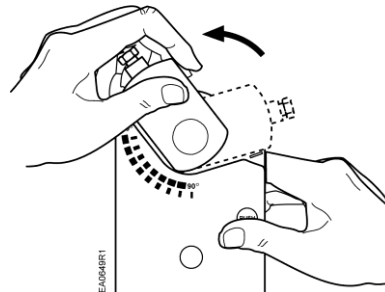

Figure 18.
- b. Hold down the **PUSH** button and rotate the shaft adapter to the left until it stops. See Figure 18.